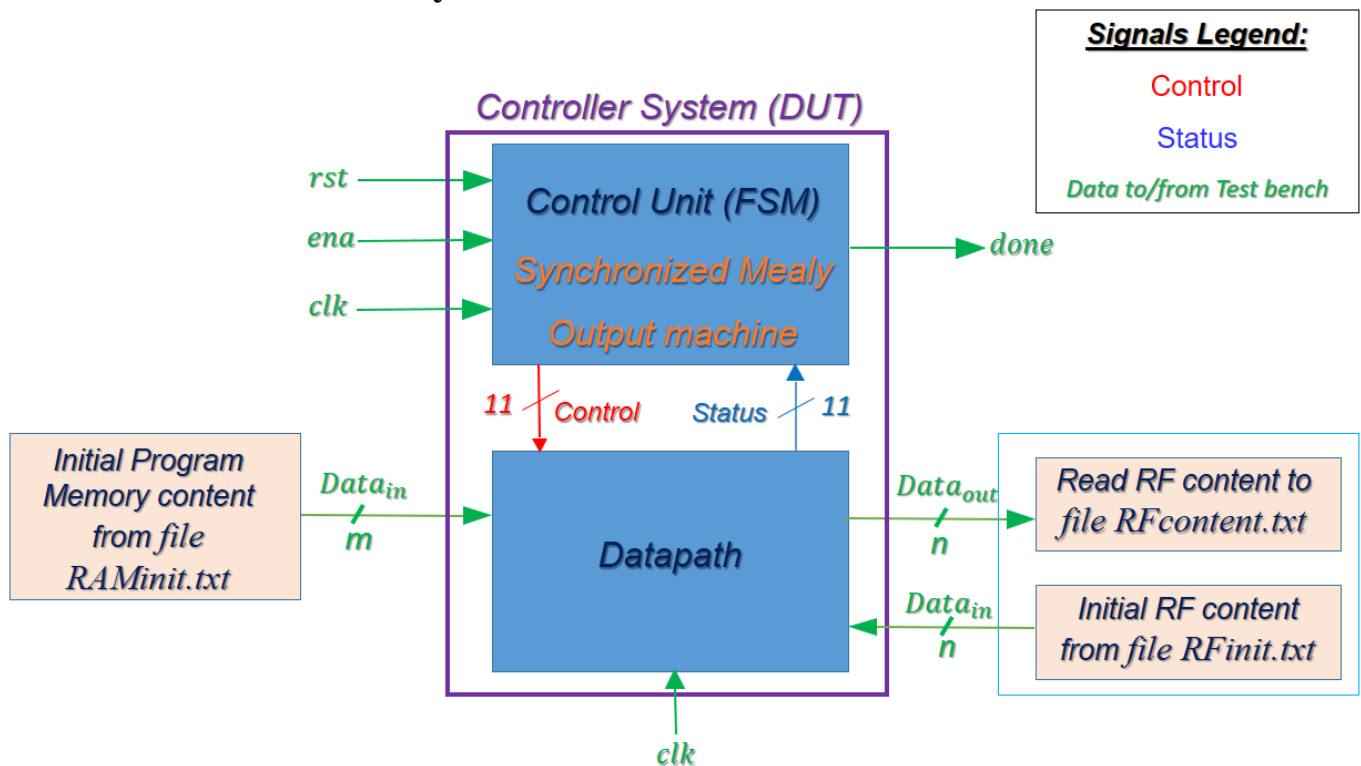

Figure 1: Overall DUT structure
- As depicted in figure 1, in order to simulate the DUT systemly we use file based simulation.